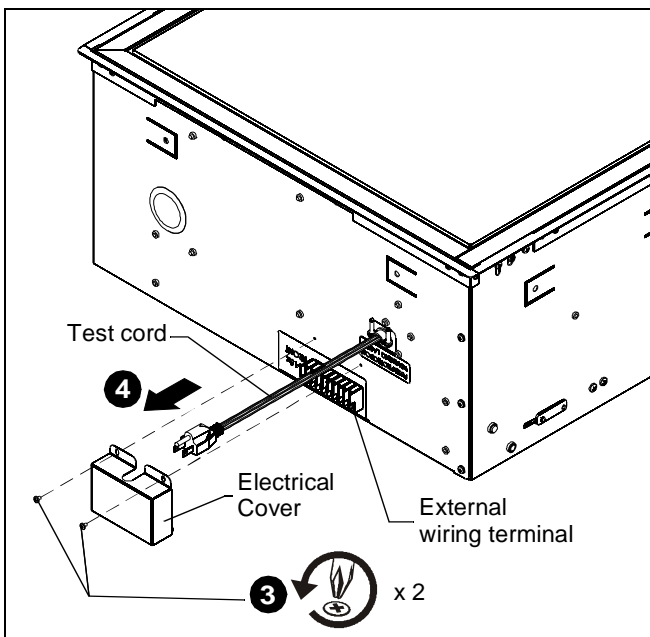
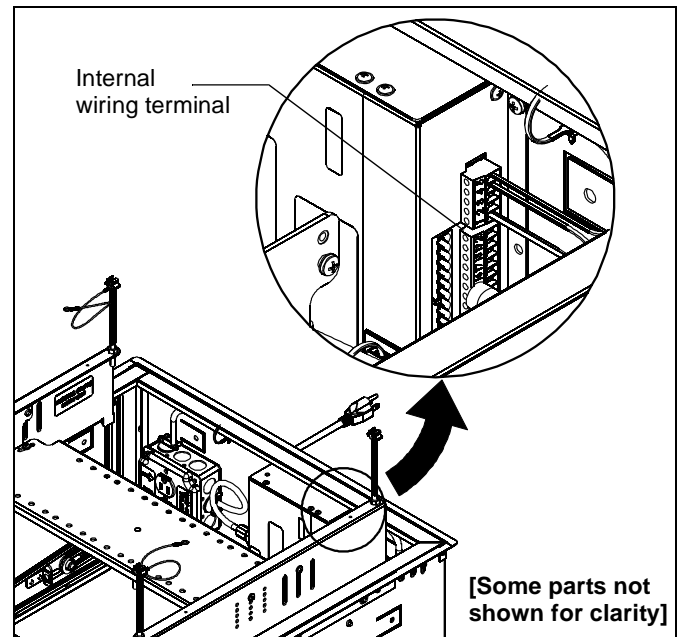

Figure 2
Figure 4
- Remove and save two screws holding side electrical cover in place. (See Figure 2)
- Remove electrical cover. (See Figure 2)
- Plug in the SL151 test cord. (See Figure 2)
NOTE: (See Figure 2) for location of external wiring terminal. (See Figure 4) for location of internal wiring terminal.